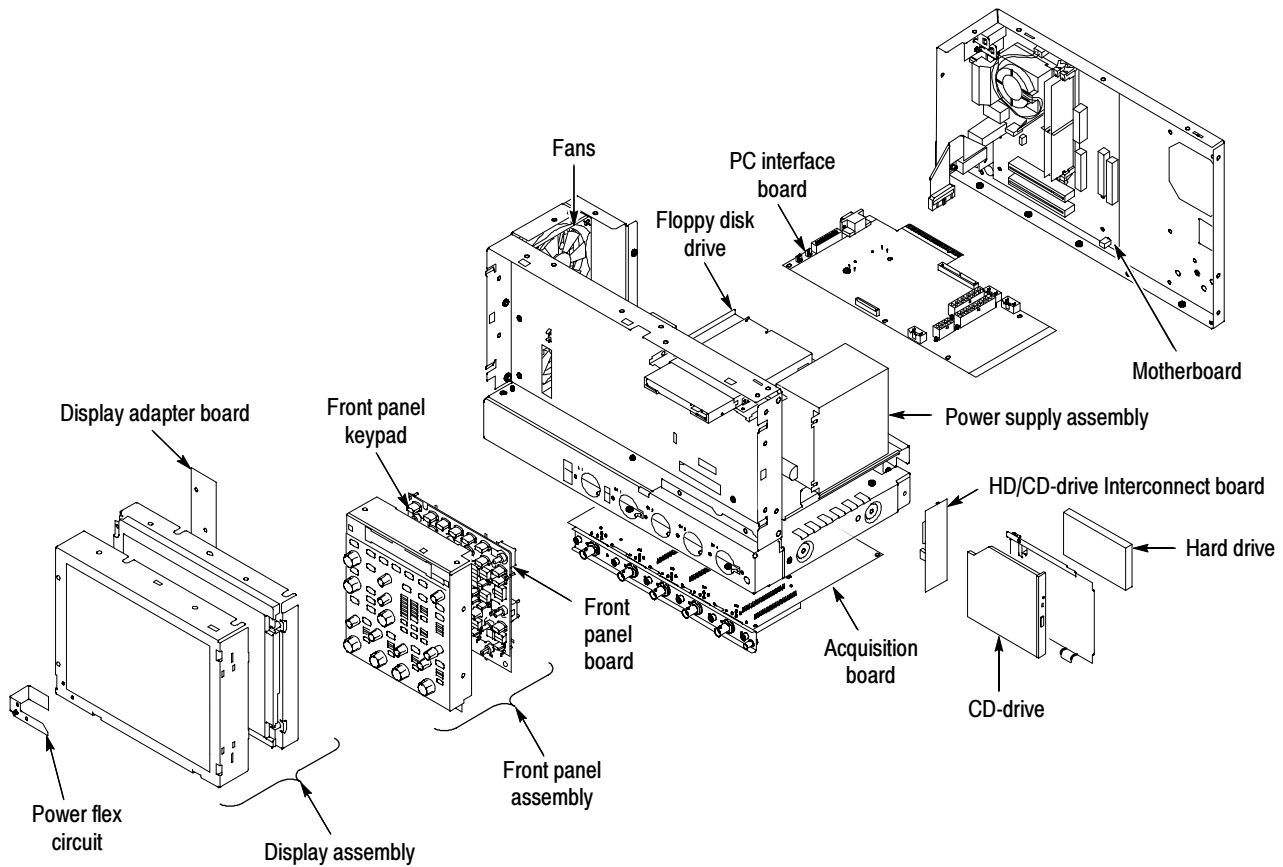

Figure 2: Internal modules
1. *Locate module to be removed:* Locate the Display assembly, see Figure 2.